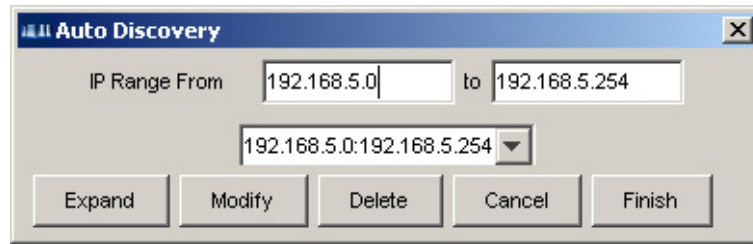

Figure 4-46: Auto Discovery Dialog Box
Step 2. Double-click on the current value under **IP scan range** row to open the Auto Discovery dialog box. (See *Figure 4-46*)